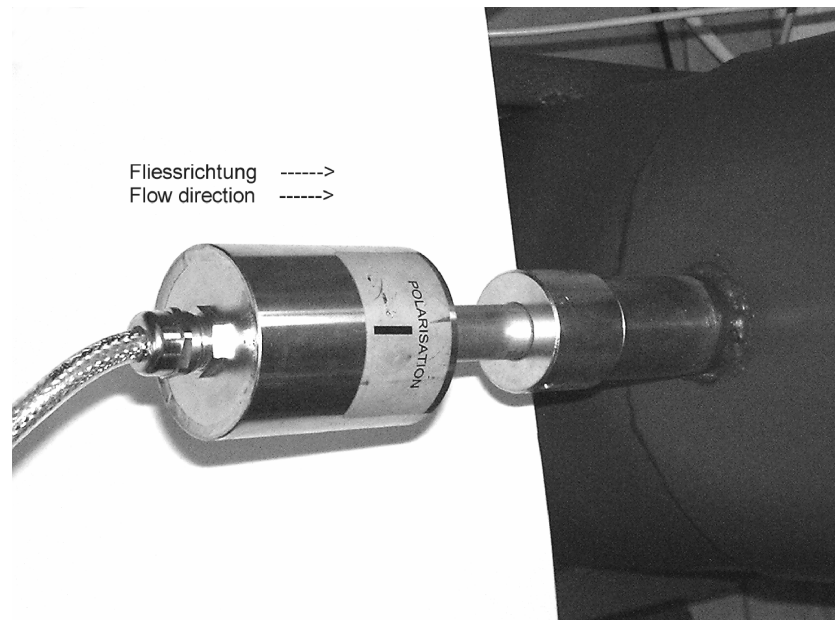

Fig. 6b: Adjustment of the sensor
- Look at the POLARISATION – label to adjust the sensor along to the duct, fig. 6b. Lock the sensor with the union nut dust proof and fix the sensor with the headless screw against turning around.